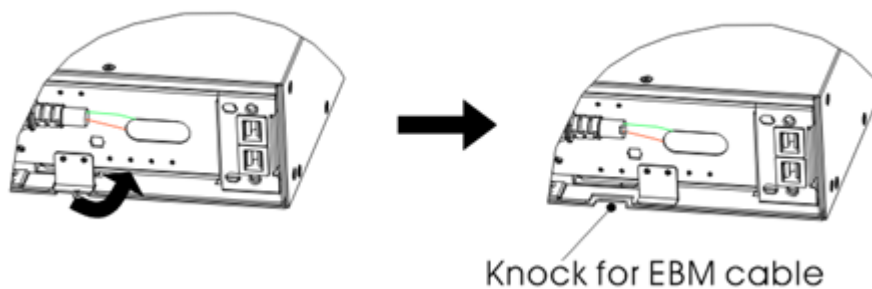

Figure 11 Removing the UPS Cable Knockout
1. Remove the front cover of each EBP and UPS (see Figure 11).